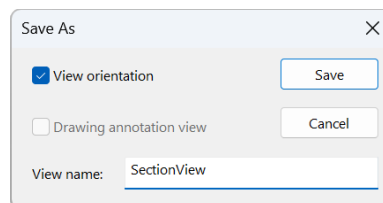

Fig. 159
Step 4. In Save As dialog box View name **SectionView**, **Fig. 159** click **Save**.